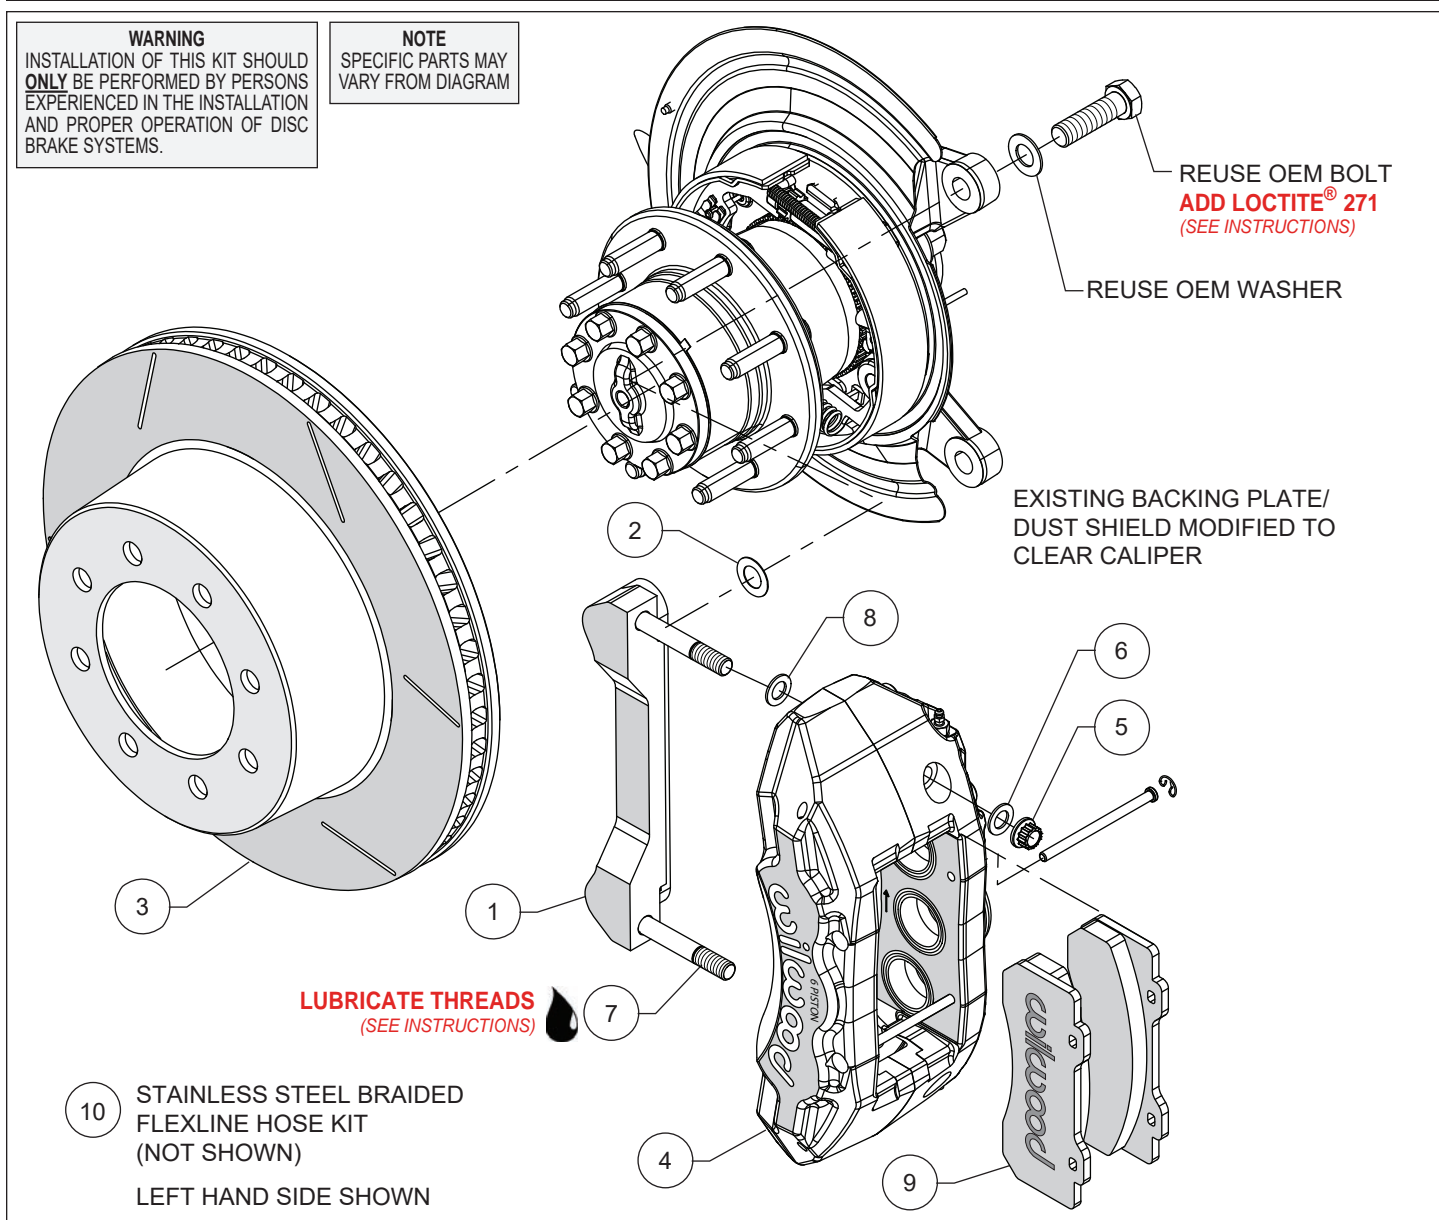

Figure 1. Typical Installation Configuration
Assembly Instructions (numbers in parenthesis refer to the parts list and Figure 1 on the preceding pages):
- The caliper mount bracket (1) should initially be installed with clean, dry threads on the mounting bolts. Orient the bracket as shown in Figure 1 and Photo 1, and install using saved OEM bolts and washers. Initially place one .024 thick shim (2) on each bolt between the bracket and upright, Figure 1. Temporarily tighten the mounting bolts. **NOTE:** The bracket must fit squarely against the mount bosses on the upright. Inspect for interference from casting irregularities, machining ridges, burrs, etc. Later, after the caliper alignment has been checked, the mount bolts will be secured using red *Loctite*® 271.
- **NOTE:** This kit contains distinct right and left hand calipers that must be mounted in a specific direction, as described below. Lubricate the caliper mounting studs (7) with lightweight oil. Initially place one .032" thick shim (8) on each stud as shown in Figure 1 and Photo 2. Mount the caliper (4) onto the bracket (1) using lock nuts (5) and washers (6), Figure 1. Ensure that the caliper is mounted so that the largest pistons are at the rotor exit end of the caliper, in relation to the direction of rotor rotation. Temporarily tighten the lock nuts and view the rotor through the top opening of the caliper. The rotor should be centered in the caliper, Photo 3. If not, adjust by adding or subtracting shims (2) between the bracket and the upright. Always use the same amount of shims on each of the two mounting bolts. Once the caliper alignment is correct, remove the bracket mounting bolts one at a time, apply red *Loctite*® 271 to the threads, and torque to manufacturer's specification.